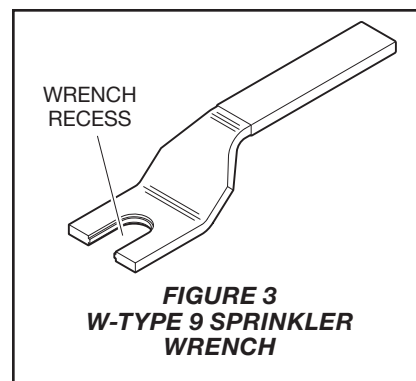

FIGURE 3
Step 2. Tighten the sprinkler into the sprinkler fitting using only the W-Type 9 Sprinkler Wrench (Ref. Figure 3). With reference to Figure 1 or 2, the W-Type 9 Sprinkler Wrench is to be applied to the wrenching area.
Step 4. Tighten the sprinkler into the sprinkler fitting using only the W-Type 9 Sprinkler Wrench (Ref. Figure 3). The wrench is to be applied to the sprinkler wrenching area shown in Figure 1 or 2, as applicable.